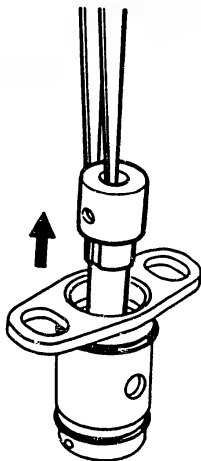

Fig. 37 Removing the plunger barrel
16. Remove the plunger barrel from the sleeve flange and place it in clean fuel oil with the previously removed plunger. (Figure 37)
17. Finally, remove the six O-rings (32) to complete disassembly of the PFR3KX type injection pump. Disassembly of PFR-KX type injection pumps with differing numbers of cylinders can be performed in the same way.
2. After washing the delivery valve assembly in clean fuel oil, hold your thumb on the bottom of the delivery valve's body as shown in Figure 37. Then, press the delivery valve lightly with your finger. If the delivery valve springs back when you release your finger, the condition of the delivery valve is considered satisfactory. If the valve does not spring back, the piston is worn and the delivery valve assembly must be replaced.